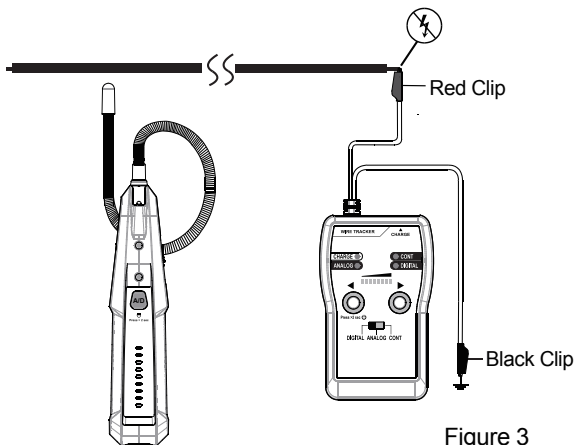

Figure 3
1. As shown in Figure 3, connect the red alligator clip of the transmitter to the wire to be traced and the black alligator clip to the ground (such as using the grounding nail accessory).